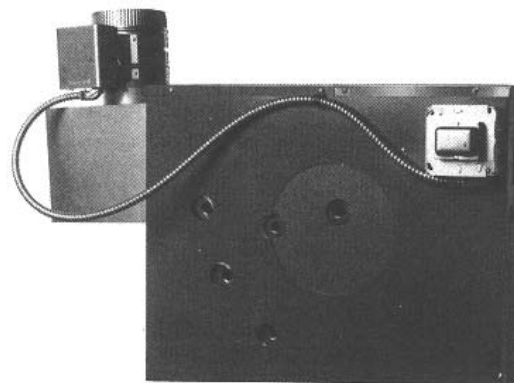

Figure 32: Vent Damper Harness to Junction Box
- d. Install cable clamp around flexible Vent Damper Harness. Attach to jacket top panel. See Figure 32.